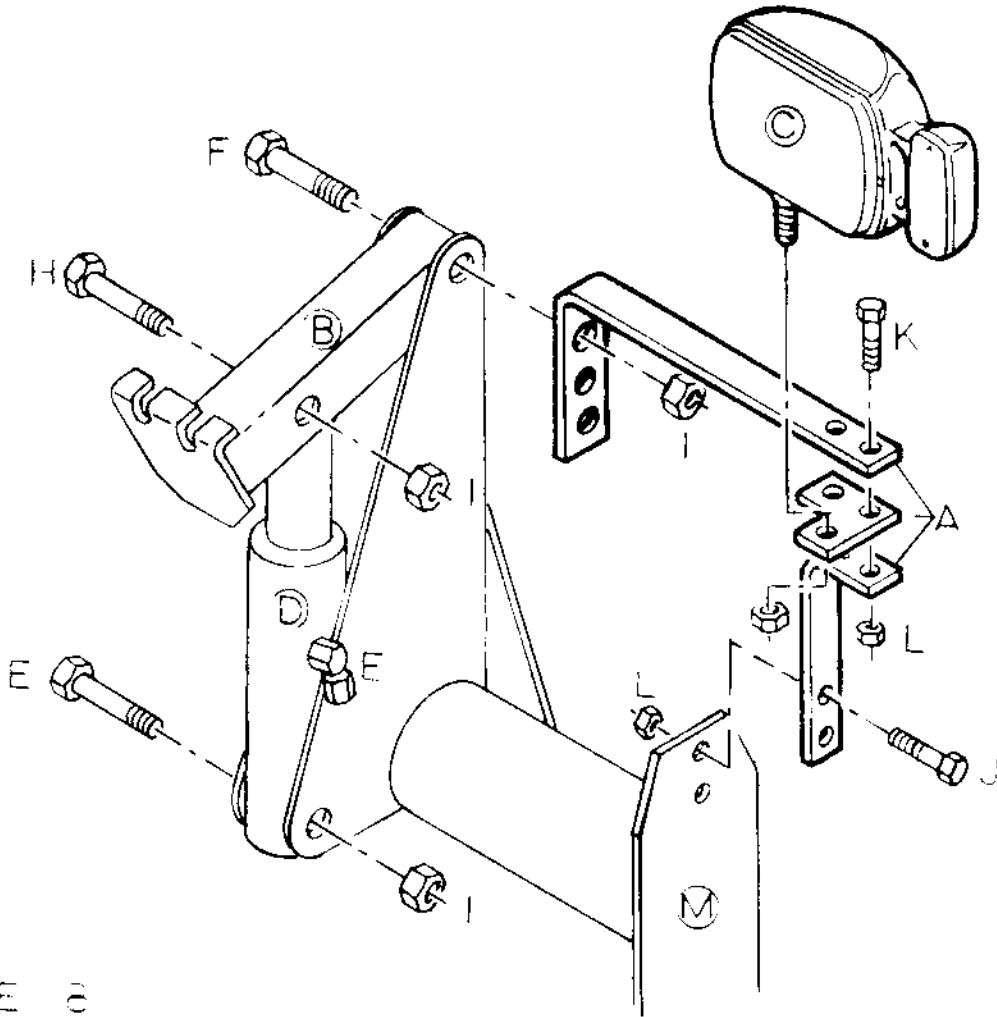

FIGURE 8
1. Install the AUXILIARY LIGHT BRACKETS (Ref. No. A, Fig. 8) to the LIFT TOWER as shown in Figure 8 using the hex head bolts and nuts provided.
2. Install LIFT ARM (Ref. No. B, Fig. 8) to the top of the LIFT TOWER ASSEMBLY using the 5/8" x 4-1/2" HEX HEAD BOLT (Ref. No. F, Fig. 8) and 5/8" SELF LOCKING NUT (Ref. No. I, Fig. 8) provided.
3. Position the LIFT CYLINDER (Ref. No. D, Fig. 8) in its respective position on the LIFT TOWER and fasten by using the 5/8" x 4" HEX HEAD BOLT (Ref. No. G, Fig. 8) and 5/8" SELF LOCKING NUT (Ref. No. I, Fig. 8) provided. Install the 90 DEGREE SWIVEL FITTING (Ref. No. E, Fig. 8). Fasten the rod end of the cylinder to the LIFT ARM using the 5/8" x 3-1/2" HEX HEAD BOLT (Ref. No. H, Fig. 8) and 5/8" SELF LOCKING NUT (Ref. No. I, Fig. 8) provided.
4. Mount the AUXILIARY HEADLIGHTS (Ref. No. C, Fig. 8) to the AUXILIARY LIGHT BRACKETS as shown in Figure 8. Do not tighten the AUXILIARY HEADLIGHT mounting nut as the positioning of the lights will have to be adjusted once the wiring has been completed.